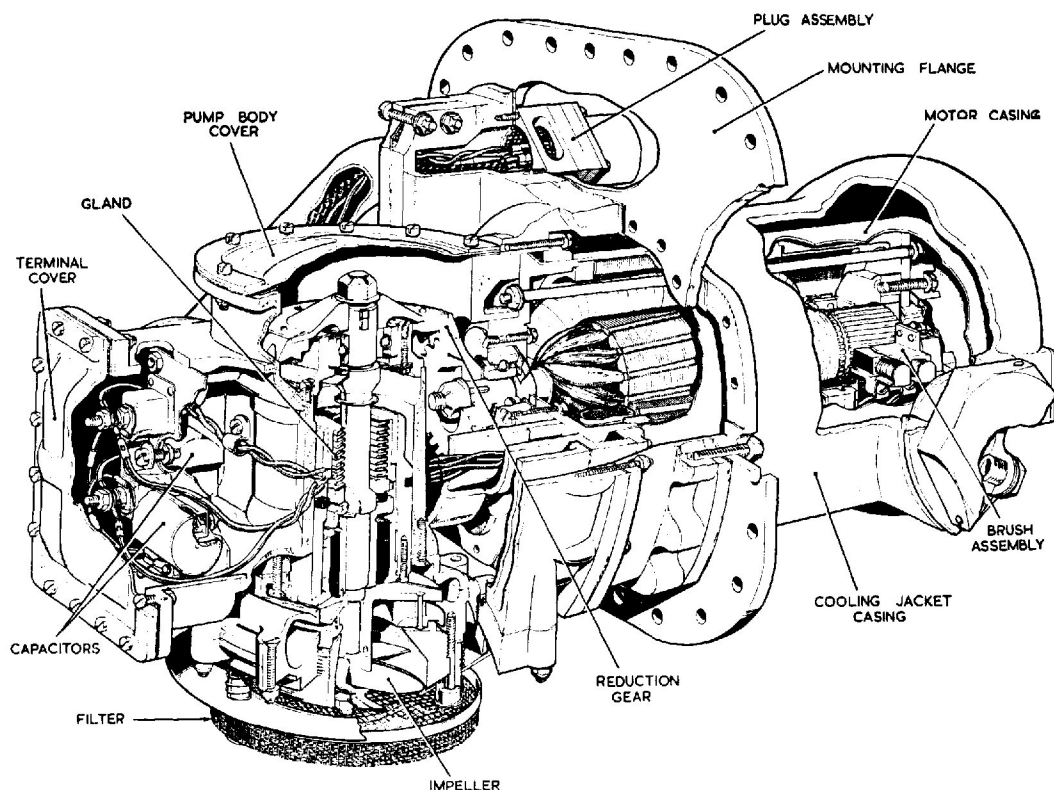

Fig. 2. Sectional view
2. The SPE 804 pump is a side mounting unit consisting, in the main, of an electric motor, operating through a reduction bevel gear (*fig. 2*) to drive the pump impeller. The axis of the motor is at a right-angle with relation to the axis of the impeller shaft. A by-pass valve (*para. 7*) is fitted to allow fuel to be drawn through by the engine driven pumps when the SPE 804 is not operating. A feature of this unit is the provision of a cooling jacket, through which the fuel flow passes to cool the pump motor.